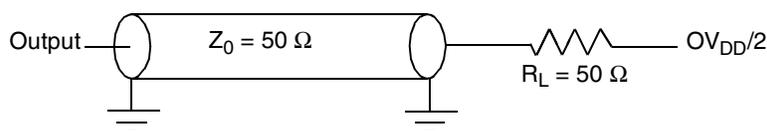
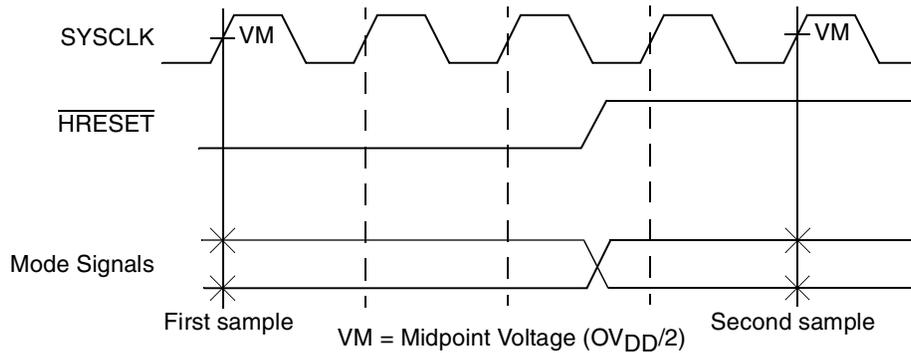

Figure 4. AC Test Load
Figure 5. Mode Input Timing Diagram
- All input specifications are measured from the midpoint of the signal in question to the midpoint of the rising edge of the input SYSCLK. All output specifications are measured from the midpoint of the rising edge of SYSCLK to the midpoint of the signal in question. All output timings assume a purely resistive 50-Ω load (see Figure 4). Input and output timings are measured at the pin; time-of-flight delays must be added for trace lengths, vias, and connectors in the system.
- The symbology used for timing specifications herein follows the pattern of $t_{(\text{signal})(\text{state})(\text{reference})(\text{state})}$ for inputs and $t_{(\text{reference})(\text{state})(\text{signal})(\text{state})}$ for outputs. For example, t_{VKH} symbolizes the time input signals (I) reach the valid state (V) relative to the SYSCLK reference (K) going to the high (H) state or input setup time. And t_{KHOV} symbolizes the time from SYSCLK(K) going high (H) until outputs (O) are valid (V) or output valid time. Input hold time can be read as the time that the input signal (I) went invalid (X) with respect to the rising clock edge (KH)—note the position of the reference and its state for inputs—and output hold time can be read as the time from the rising edge (KH) until the output went invalid (OX).
- Includes mode select signals: BVSEL, EMODE, L2VSEL. See Figure 5 for mode select timing with respect to $\overline{\text{HRESET}}$.
Figure 4 provides the AC test load for the MPC7410.
Figure 5 provides the mode select input timing diagram for the MPC7410. The mode select inputs are sampled twice, once before and once after HRESET negation.